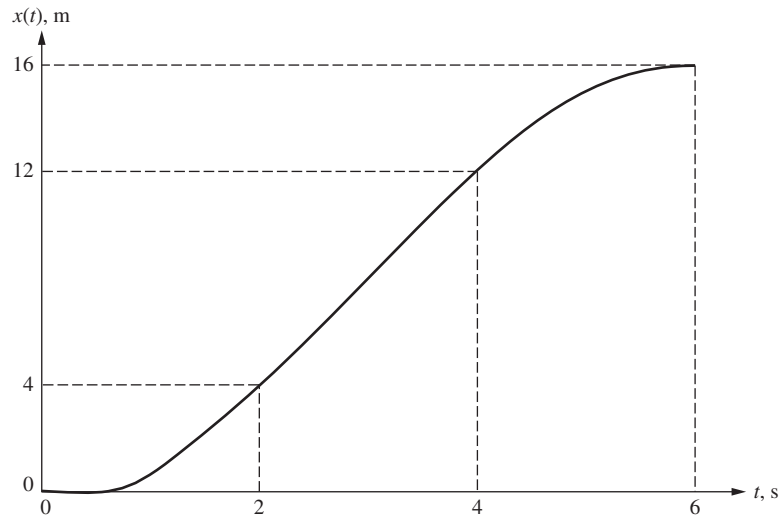

Figure 8.16 The position of the particle for example 8-3.
Therefore, for $0 \leq t \leq 2$ s, $x(t) = t^2$ is a quadratic function with a positive slope (concave up) and $x(2) = 4$ m, as shown in Fig. 8.16.
of 4 m at $t = 2$ s as shown in Fig. 8.16. Since the slope is 4 m/s, the position increases by 4 m every second. So during the 2 s between $t = 2$ and $t = 4$, its position increases by 8 m. And since the position at time $t = 2$ s was 4 m, its position at time $t = 4$ s will be 4 m + 8 m = 12 m. The equation of position for $2 < t \leq 4$ s can be written as
- (iii) $4 < t \leq 6$ s: $v(t)$ is a straight line with a slope of -2 m/s, therefore, $x(t)$ is a quadratic function with decreasing slope (concave down) starting at $x(4) = 12$ m and ending at $x(6) = 16$ m with zero slope. The resulting graph of the position is shown in Fig. 8.16.